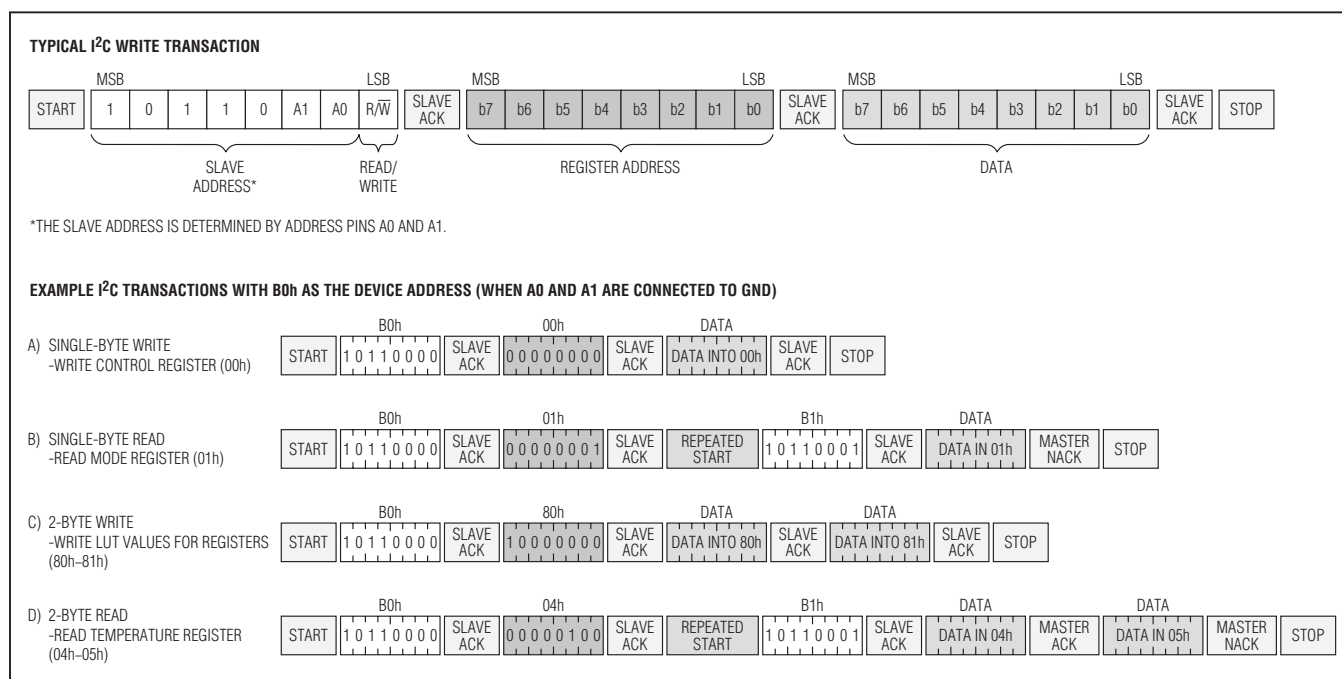

Figure 7. I2C Communication Examples
**Acknowledge (ACK and NACK):** An acknowledge (ACK) or not-acknowledge (NACK) is always the 9th bit transmitted during a byte transfer. The device receiving data (the master during a read or the slave during a write operation) performs an ACK by transmitting a zero during the 9th bit. A device performs a NACK by transmitting a one (done by releasing SDA) during the 9th bit. Timing for the ACK and NACK is identical to all other bit writes. An ACK is the acknowledgment that the device is properly receiving data (see Figure 7). A NACK is used to terminate a read sequence, or used as an indication that the device is not receiving data.
See Figure 7 for I2C communication examples.
**Manipulating the Address Counter for Reads:** A dummy write cycle can be used to force the address counter to a particular value. To do this, the master generates a START condition, writes the slave address byte ( $R/\overline{W} = 0$ ), writes the memory address where it desires to read, generates a repeated START condition, writes the slave address byte ( $R/\overline{W} = 1$ ), reads data with ACK or NACK as applicable, and generates a STOP condition. Recall that the master must NACK the last byte to inform the slave that no additional bytes are to be read. See Figure 7 for I2C communication examples.